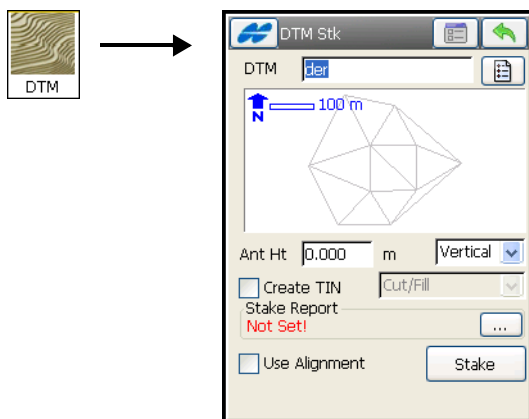

Figure 13-39. DTM Stakeout
To start the DTM (Digital Terrain Model) stakeout, select the **DTM** icon. The **DTM Stk** screen displays (Figure 13-39). You have to select a desired DTM file to show the graphic on the screen.
- **Open** – opens the selected file in the *DTM Stk* screen with the graphic displayed (Figure 13-39 on page 13-36).